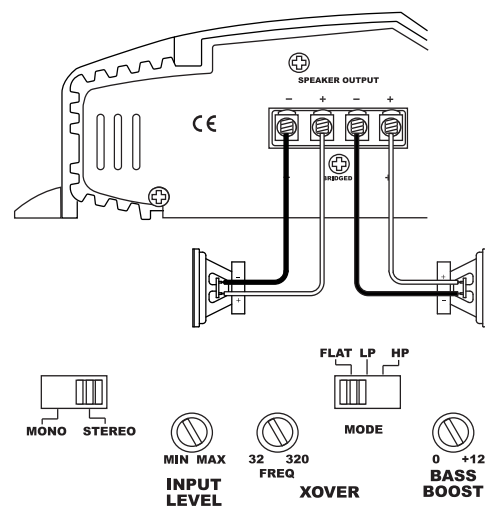

Figure 5. 7521a amplifier set up for stereo operation.
The 7521a amplifier can be set up for stereo or bridged-mono operation, as shown in Figures 5 and 6.
**NOTE:** For simplicity, Figures 5 and 6 do not show power, remote and input connections.